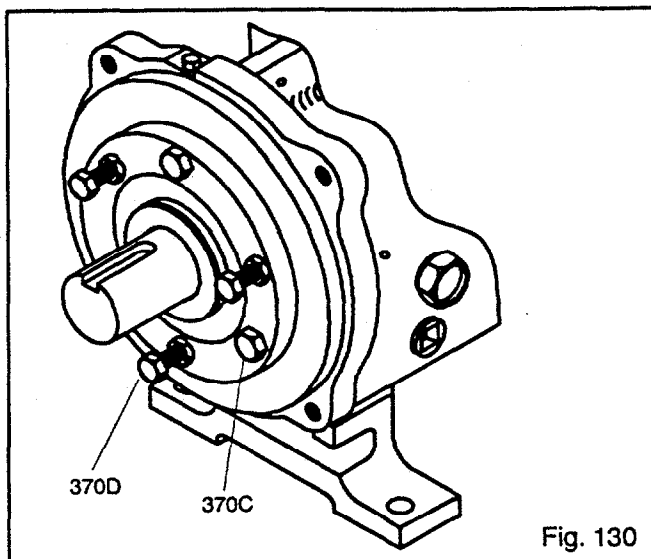

Fig. 130
1. Clean casing fit and install casing gasket (351) in place on seal chamber/stuffing box cover.
2. Loosen clamping bolts (370C) and jacking bolts (370D) on bearing housing (Fig. 130).